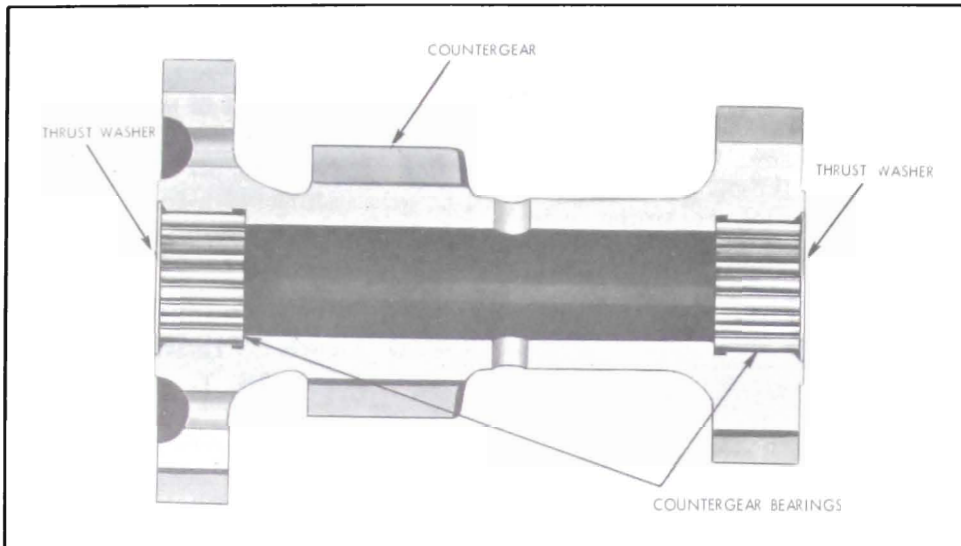

Figure 4-34—Counter gear and Bearings
6. Place some cup grease in the roller bearing area on each end of counter gear. Insert Tool J-5777 in counter gear. Install 25 roller bearings in each end. Apply grease to bearing thrust washers; place one of each at each end of counter gear. See Figure 4-34.